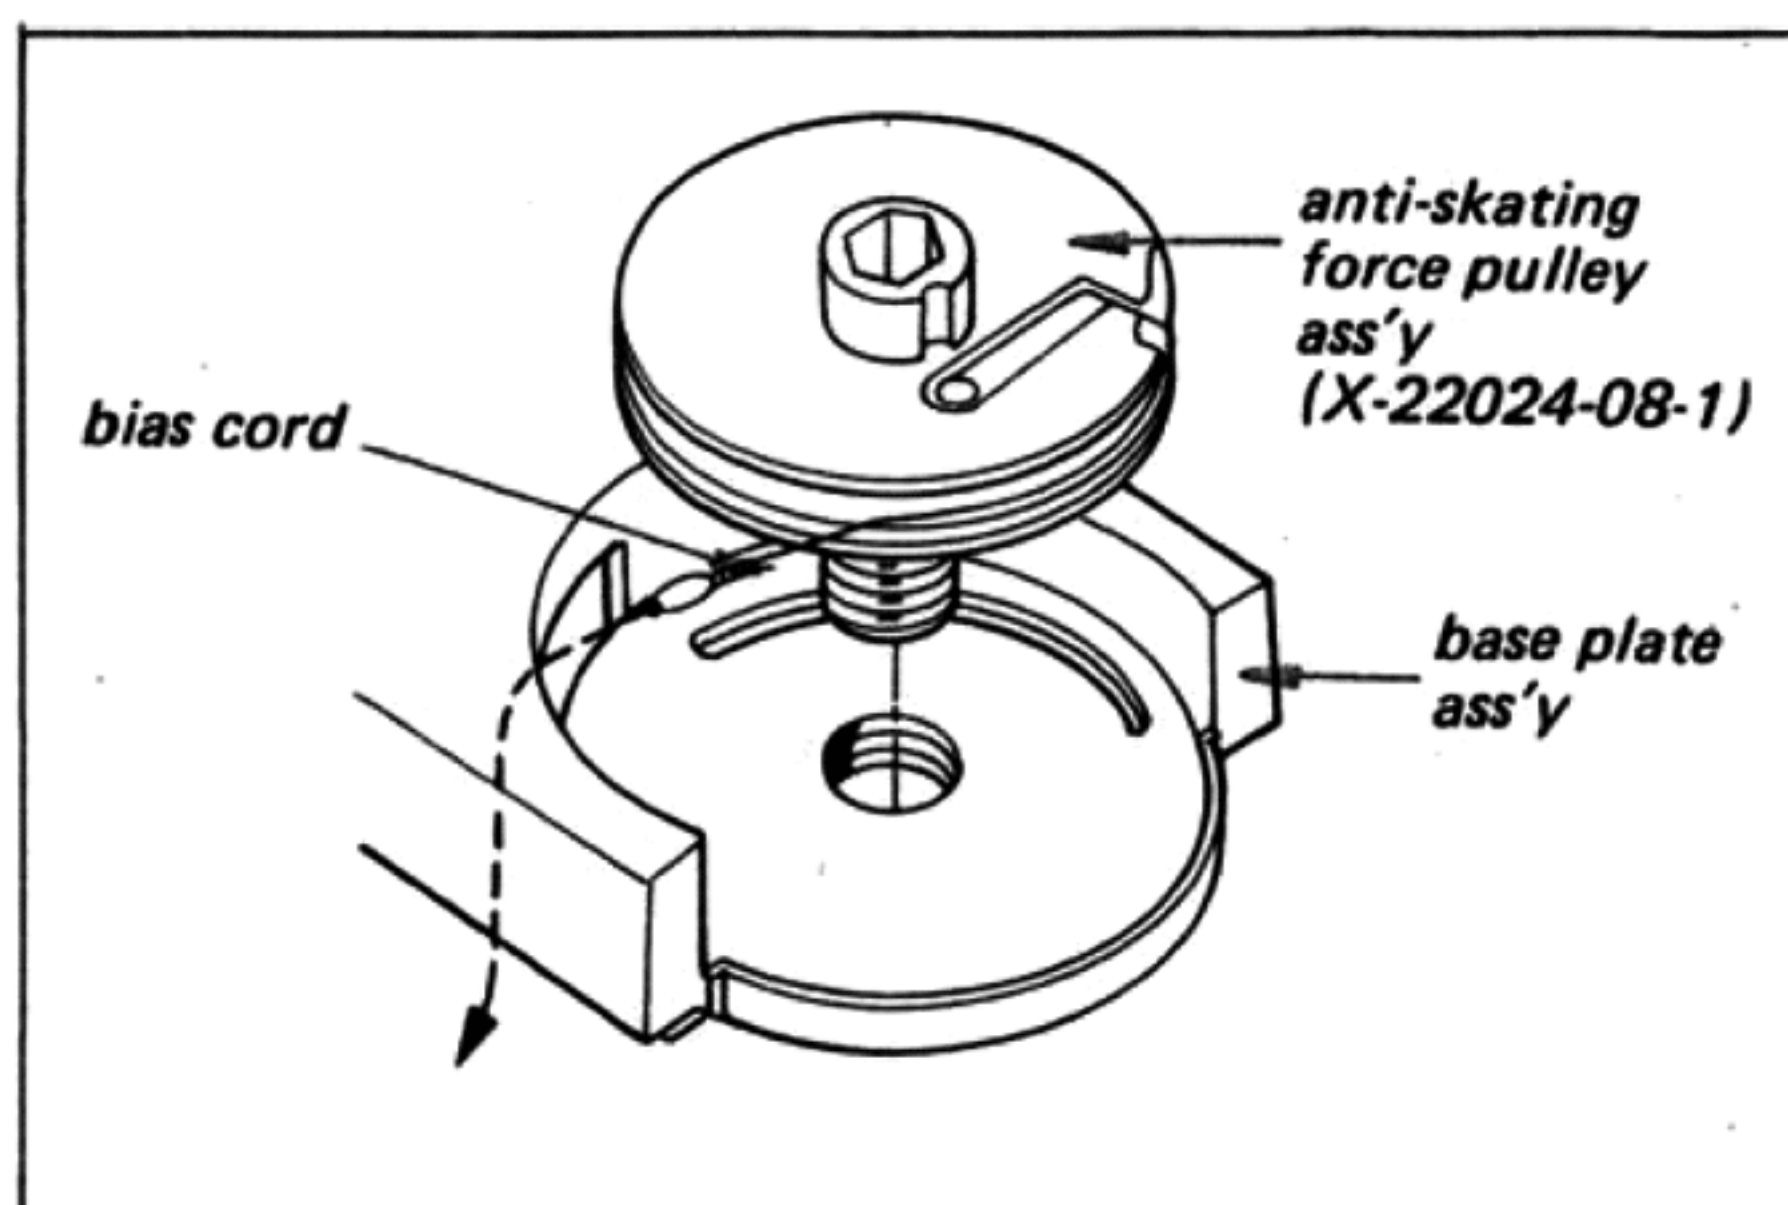

Fig. 2-18. Bias cord threading
6. Thread the tension spring through the opening of the base plate assembly as shown in Fig. 2-18.